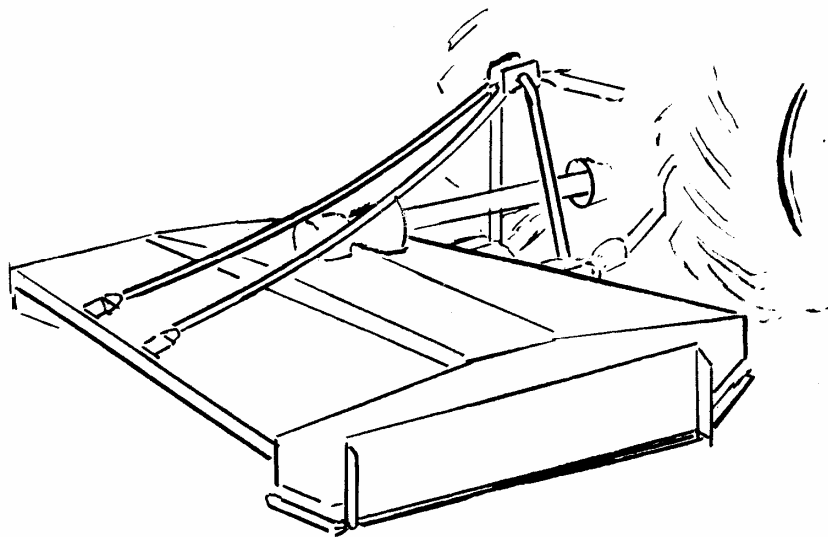

FIG. 5 Support Straps
- (a) Fit Rotary Topper to the tractor's hydraulic three-point linkage in the normal way. If possible use right hand and left hand stay bars or check chains. While in operating position, adjust top link until rear support straps are slack as illustrated in Fig. 5.